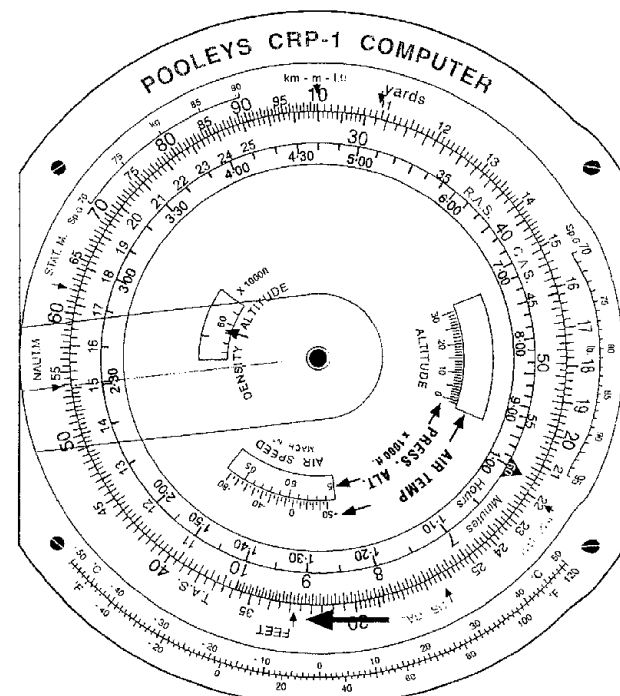

fig N15
Set this value (916) under the 'feet' index on the outer fixed scale. Under the 'naut. m' index on the fixed outer scale, read off the answer on the rotating inner scale = 15 (approximately). See (i) (ii) & (iii) = 150nm. and fig N15.